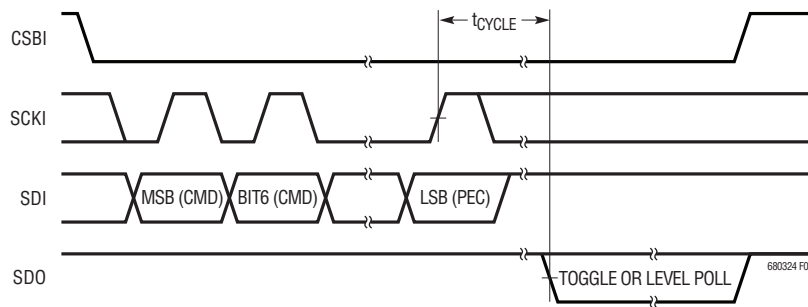
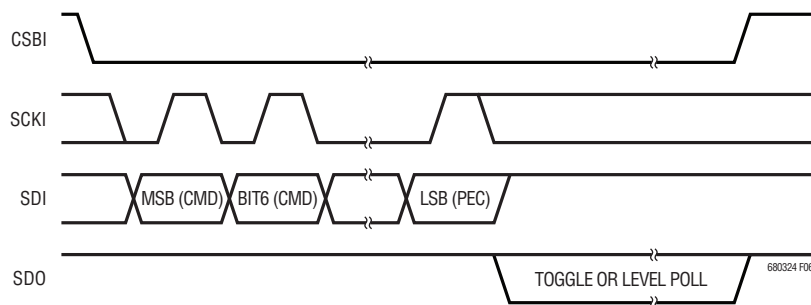

Figure 5. Transmission Format (ADC Conversion and Poll)
Figure 6. Transmission Format (PLADC Conversion or PLINT)
*Polling Methods:* For ADC conversions, three methods can be used to determine ADC completion. First, a controller can start an ADC conversion and wait for the specified conversion time to pass before reading the results. The second method is to hold CSBI low after an ADC start command has been sent. The ADC conversion status will be output on SDO (Figure 5). A problem with the second method is that the controller is not free to do other serial communication while waiting for ADC conversions to complete. The third method overcomes this limitation. The controller can send an ADC start command, perform other tasks, and then send a poll ADC converter status (PLADC) command to determine the status of the ADC conversions (Figure 6). For OV/UV interrupt status, the poll interrupt status (PLINT) command can be used to quickly determine whether any cell in a stack is in an overvoltage or undervoltage condition (Figure 6).